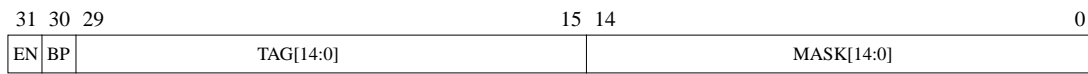

Figure 42: Write protection register 1 & 2
Write protection is provided to protect the memory and I/O areas against accidental overwriting. It is implemented as two block protect units capable of disabling or enabling write access to a binary aligned memory block in the range of 32 Kbyte - 1 Mbyte. Each block protect unit is controlled through a control register (figure 42). The units operate as follows: on each write access to RAM, address bits (29:15) are xored with the tag field in the control register, and anded with the mask field. A write protection error is generated if the result is not equal to zero, the corresponding unit is enabled and the block protect bit (BP) is set, or if the BP bit is cleared and the result is equal to zero. If a write protection error is detected, the write cycle is aborted and a memory access error is generated.